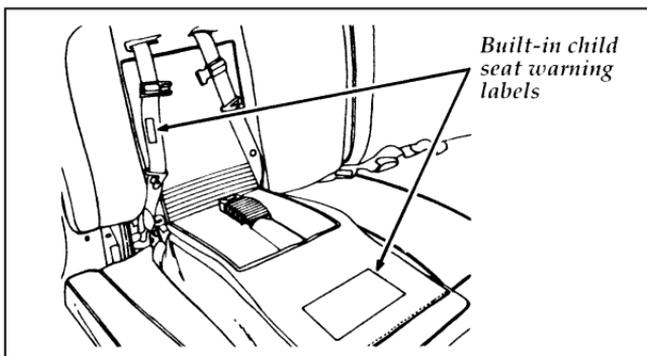

Figure 4: Child seat information and warnings
4. Grasp the shoulder portion of the belt and pull downward until all of the belt is extracted and a click is heard. At this time, the retractor is in the automatic locking mode (child seat restraint mode). Figure 4.
4. Read the information and warnings on the child seat cushion and shoulder safety belt. Refer to Figure 4. Check the child's size, weight and age to be sure the child is not too small or too large for the child seat.